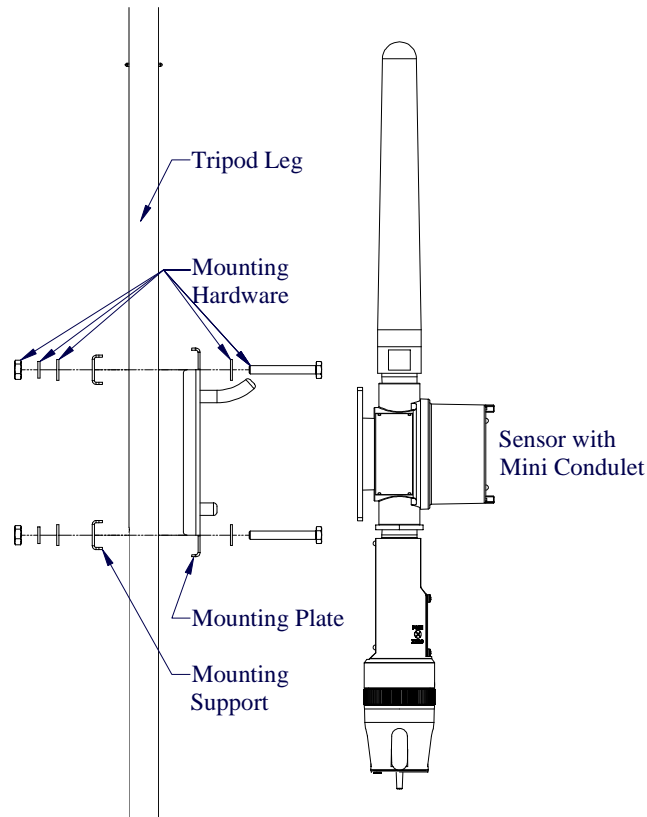

Figure 10 Attach Sensor Brackets to Tripod
5. If sensors are being mounted on the tripod legs, attach the sensor mounting brackets to the tripod legs using the supplied 1/4" bolts, nuts and lock washers in accordance with Figure 10.